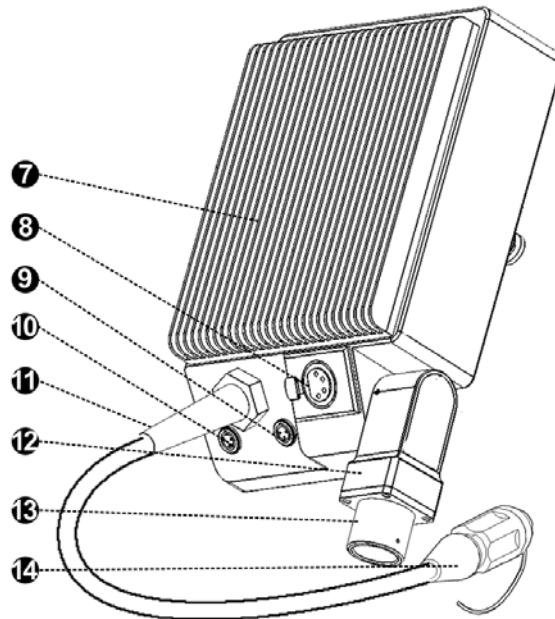

Fig. 3-23: PowerPlus 3000 Connectors
- **4: Auxilliary +12 Volt Output:** indicates 12 Volt is being supplied to the 4-pin XLR connector(#7 on Figure 3-23)
- **5: +24 Volt DC "B":** lights up when 24 Volts is available on connector(#10 on Figure 3-23)